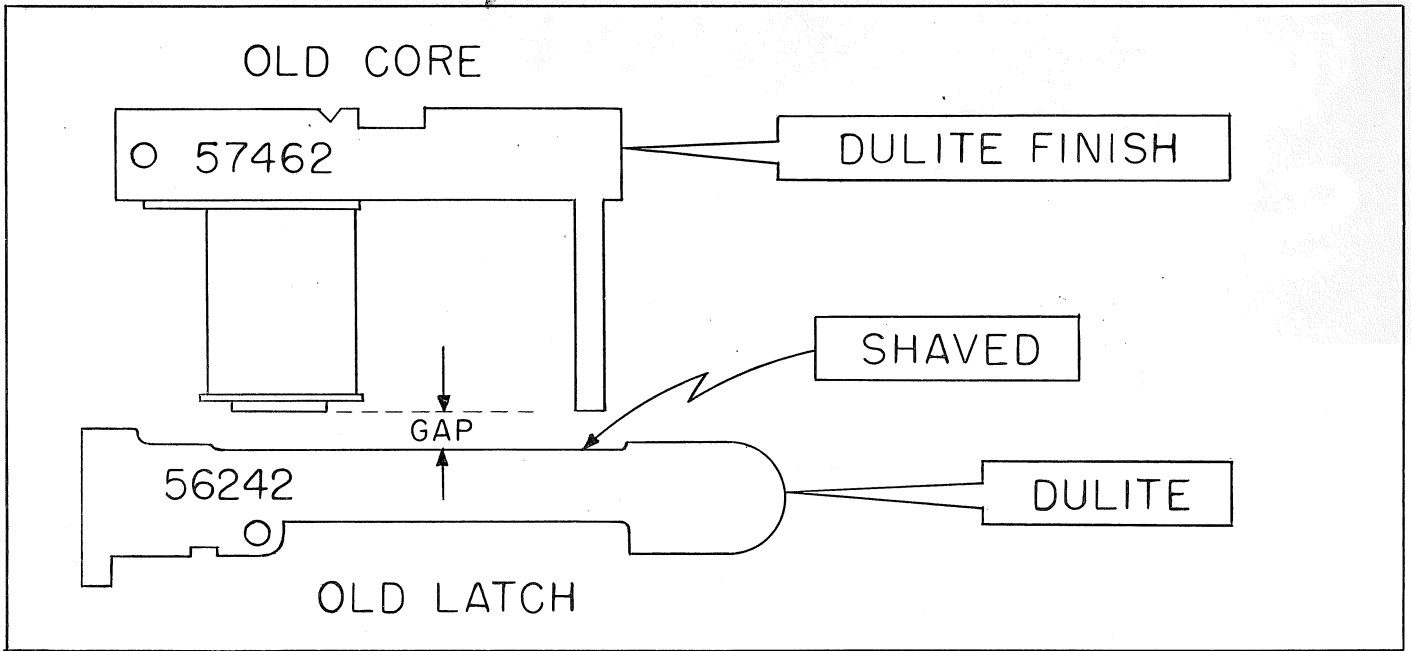

FIG. 1
2. a. Earlier selector assemblies were made up of coil assemblies with long cores and latch pins shaved, as in Fig. 1, to provide clearance.